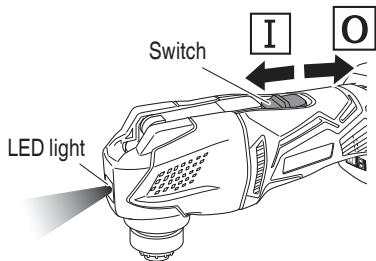

Fig. 8
6. Sliding the switch towards **I** will switch on, simultaneously activating the LED light which will light the application tool. (Fig. 8)